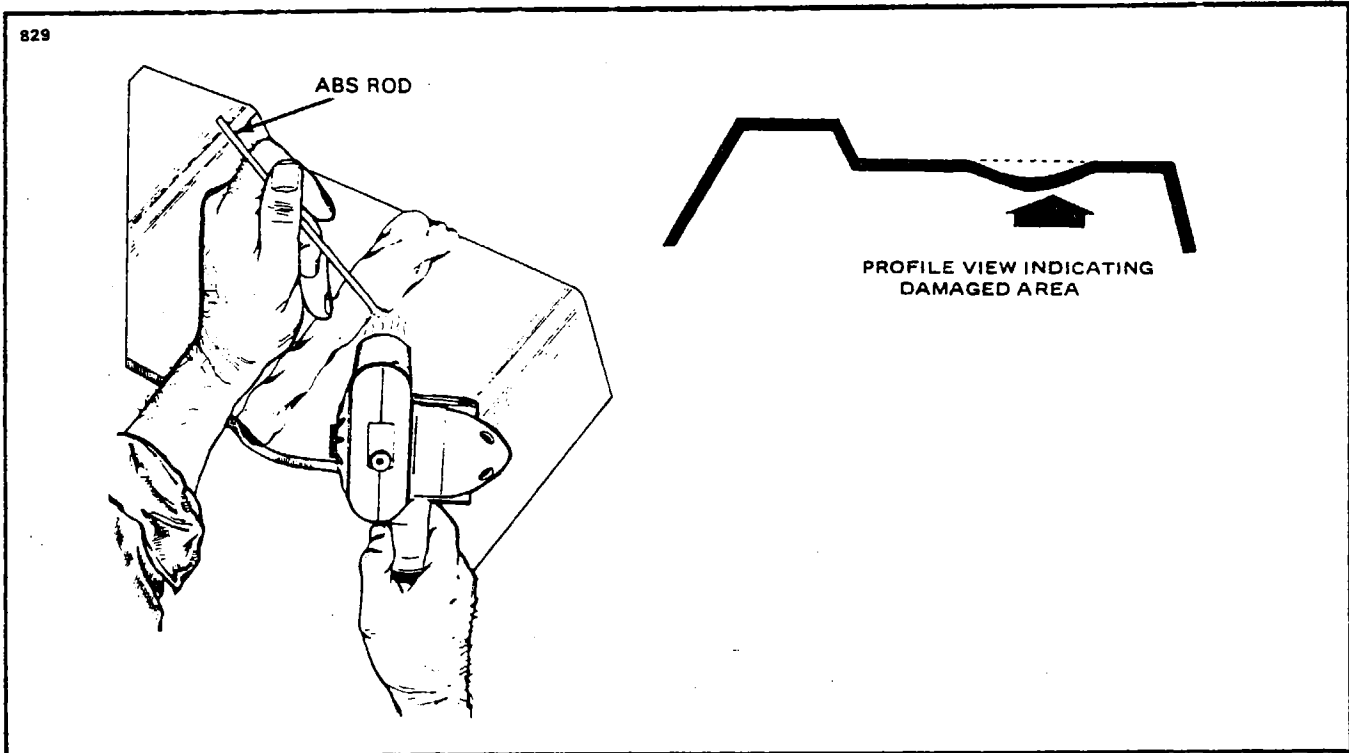

Figure 4-38. Repair of Impacted Damage
- 1. Stress lines produce a whitened appearance in a localized area and generally emanate from the severe bending or impacting of the material. (Refer to Figure 4-38.)